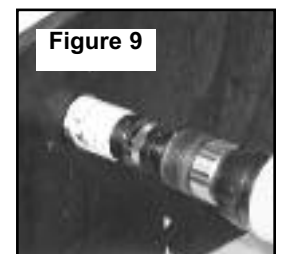

Figure 9
STEP 2: Use 1-1/4" hole saw to cut center hole and drill 17/64" holes for outside flange mounting (see figure 9).